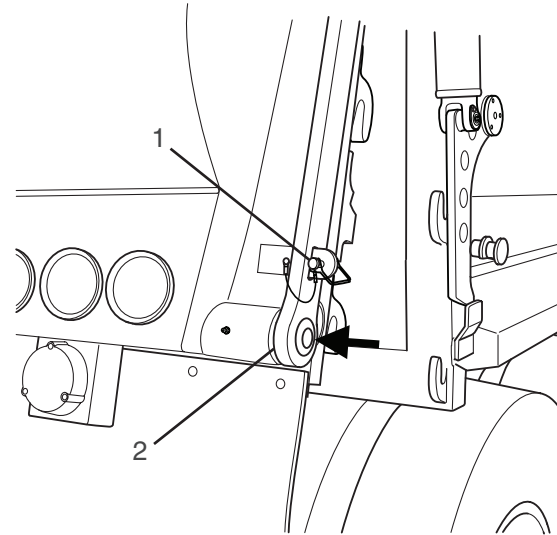

Figure 54
5. Push the props (Figure 54, Item 2) toward the body, over the metal tab.
6. Install the pin (Figure 54, Item 1) through the metal tab to secure the props.